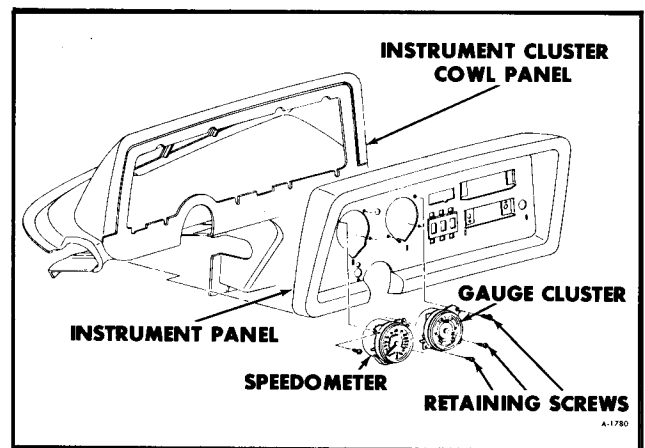
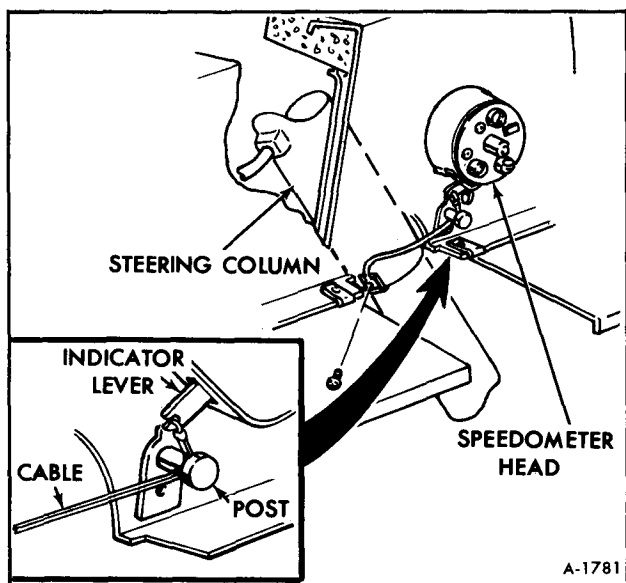

Figure 3—Speedometer and Gauge Cluster
Figure 4—Gear Indicator Cable Connection
4. Remove the (3) speedometer retaining screws (See figure 3) and ground wire.
6. Disconnect (4) wire electrical connector from the back of the speedometer head.
9. When installing new or repaired speedometer head, the gear indicator cable should be routed around the metal post on the back side of the instrument panel. (See figure 4)
GUAGE CLUSTER REPLACEMENT (FIGURE 3)
3. Remove the (3) gauge retaining screws and pull gauge out as far as possible. (See figure 3)